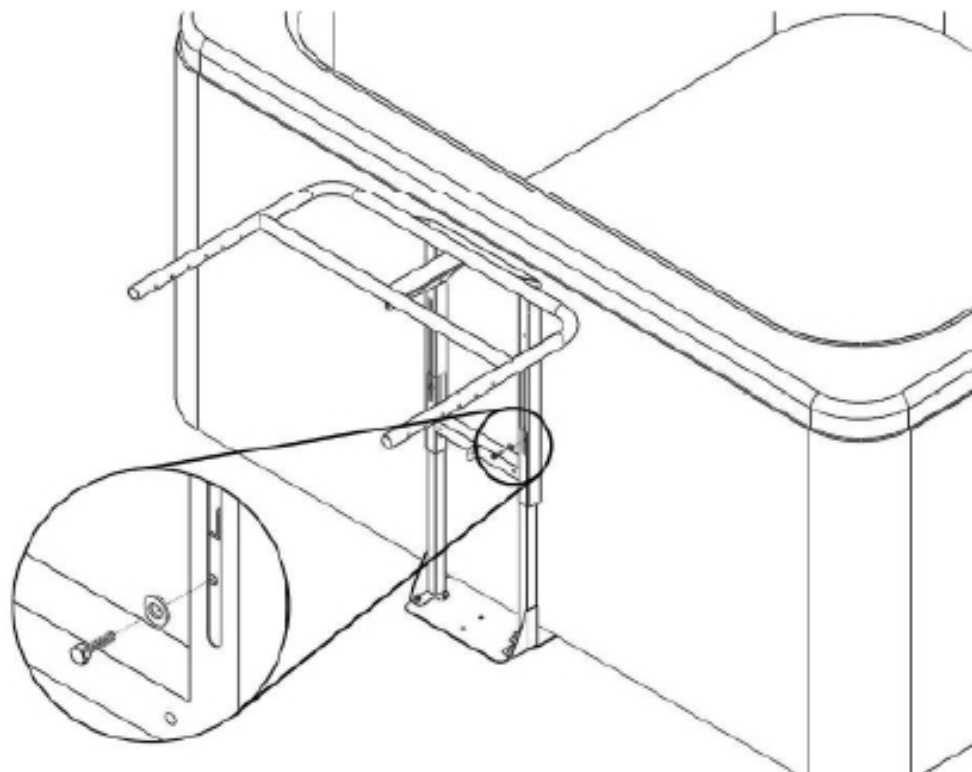

Figure 5
- 5 Loosely thread the ccE Adjustment Bolt through the ccH Adjustment Bolt Washer and into the threaded holes in the Support Legs. DO NOT tighten the adjustment screws yet. See Fig 5. **TO CONTINUE WITH BASE MOUNT SETUP, SKIP TO STEP 8**